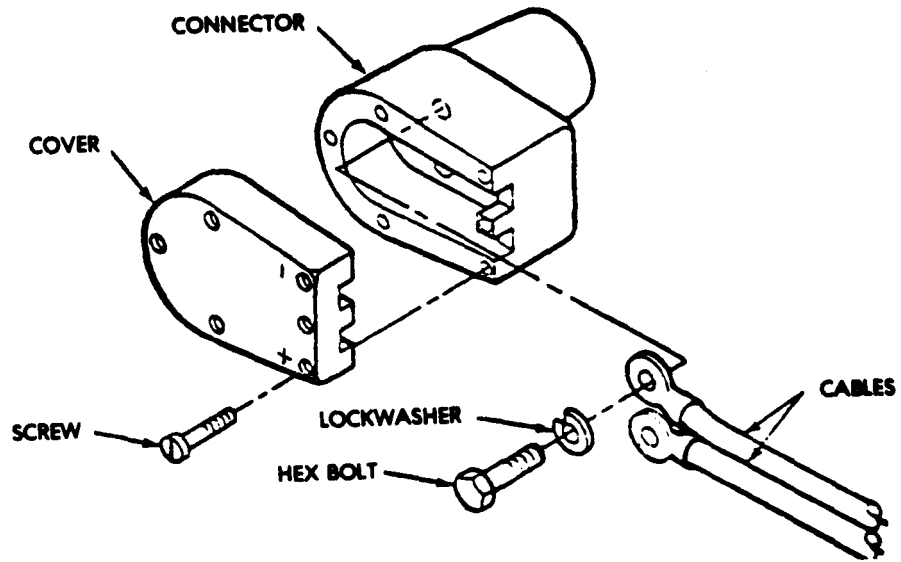
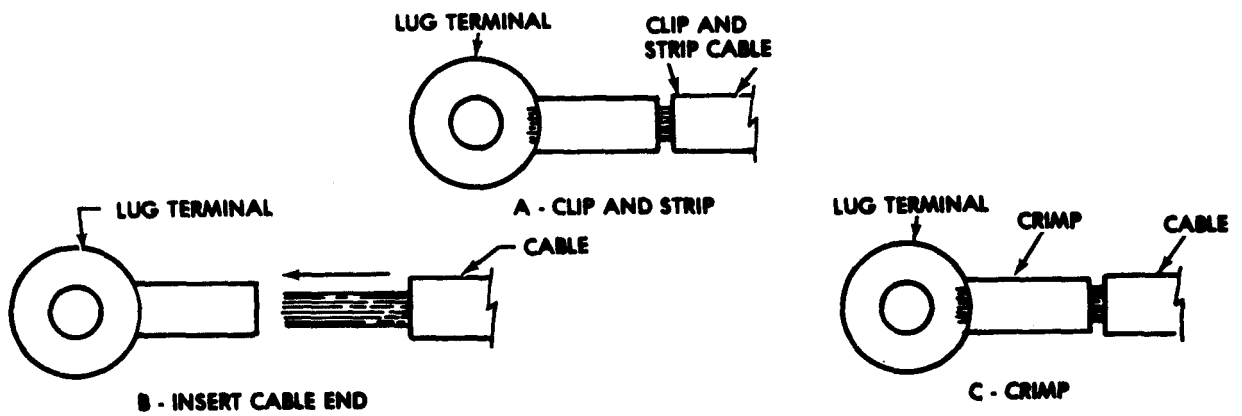

Figure 3-21.4 Connector Assembly.
Figure 3-21.5. Lug Terminal Removal and Replacement.
b. Connector Assembly Removal. (See figure 3-21.4)
(1) Remove the cover from connector by removing screws.
(2) Remove the cables from connector by removing bolt and lockwashers.
c. Connector Assembly Replacement. (See figure 3-21.4)
(1) Attach cables to connector with lockwashers and bolts.
(2) Attach cover to connector with screws.
d. Lug terminal replacement. To replace lug terminals, see figure 3-21.5.